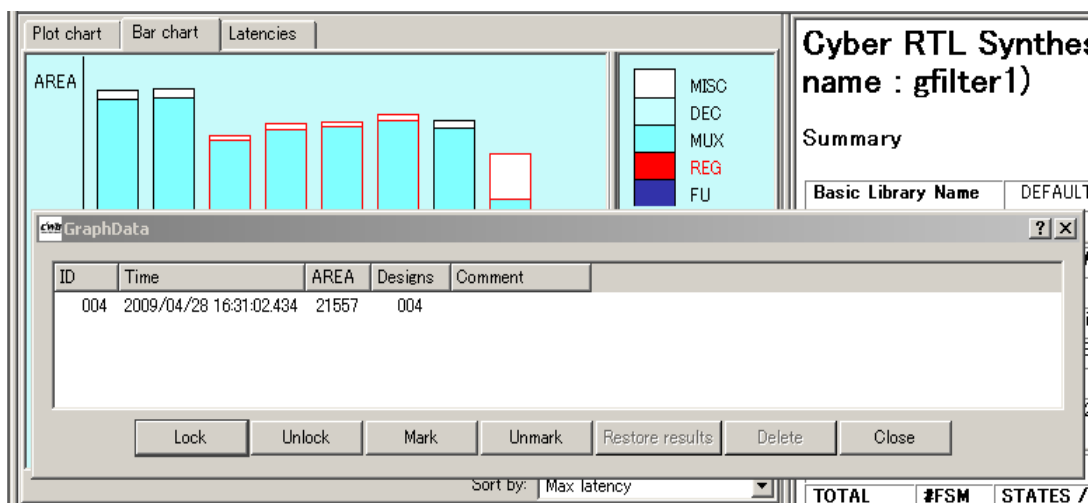

Figure 11-7 Synthesis result selection screen (right click)
- By right clicking the bar plotted in graph, a window (Figure 11-7) to select synthesis result appears. By clicking the row in table, "Delete" and "Restore results" buttons at the bottom of window become selectable. In this state, by pressing "delete" button, result of corresponding behavioral synthesis is deleted. By pressing "Restore results" button, environment of applicable synthesis execution can be restored in project management window. Please refer section 11.3.1 for "Lock", "Unlock", "Mark" and "Unmark". For details please refer section 11.7. Horizontal axis details are as follows. Please refer Plot graph (section 11.3.1) for operations that can be performed in this window.